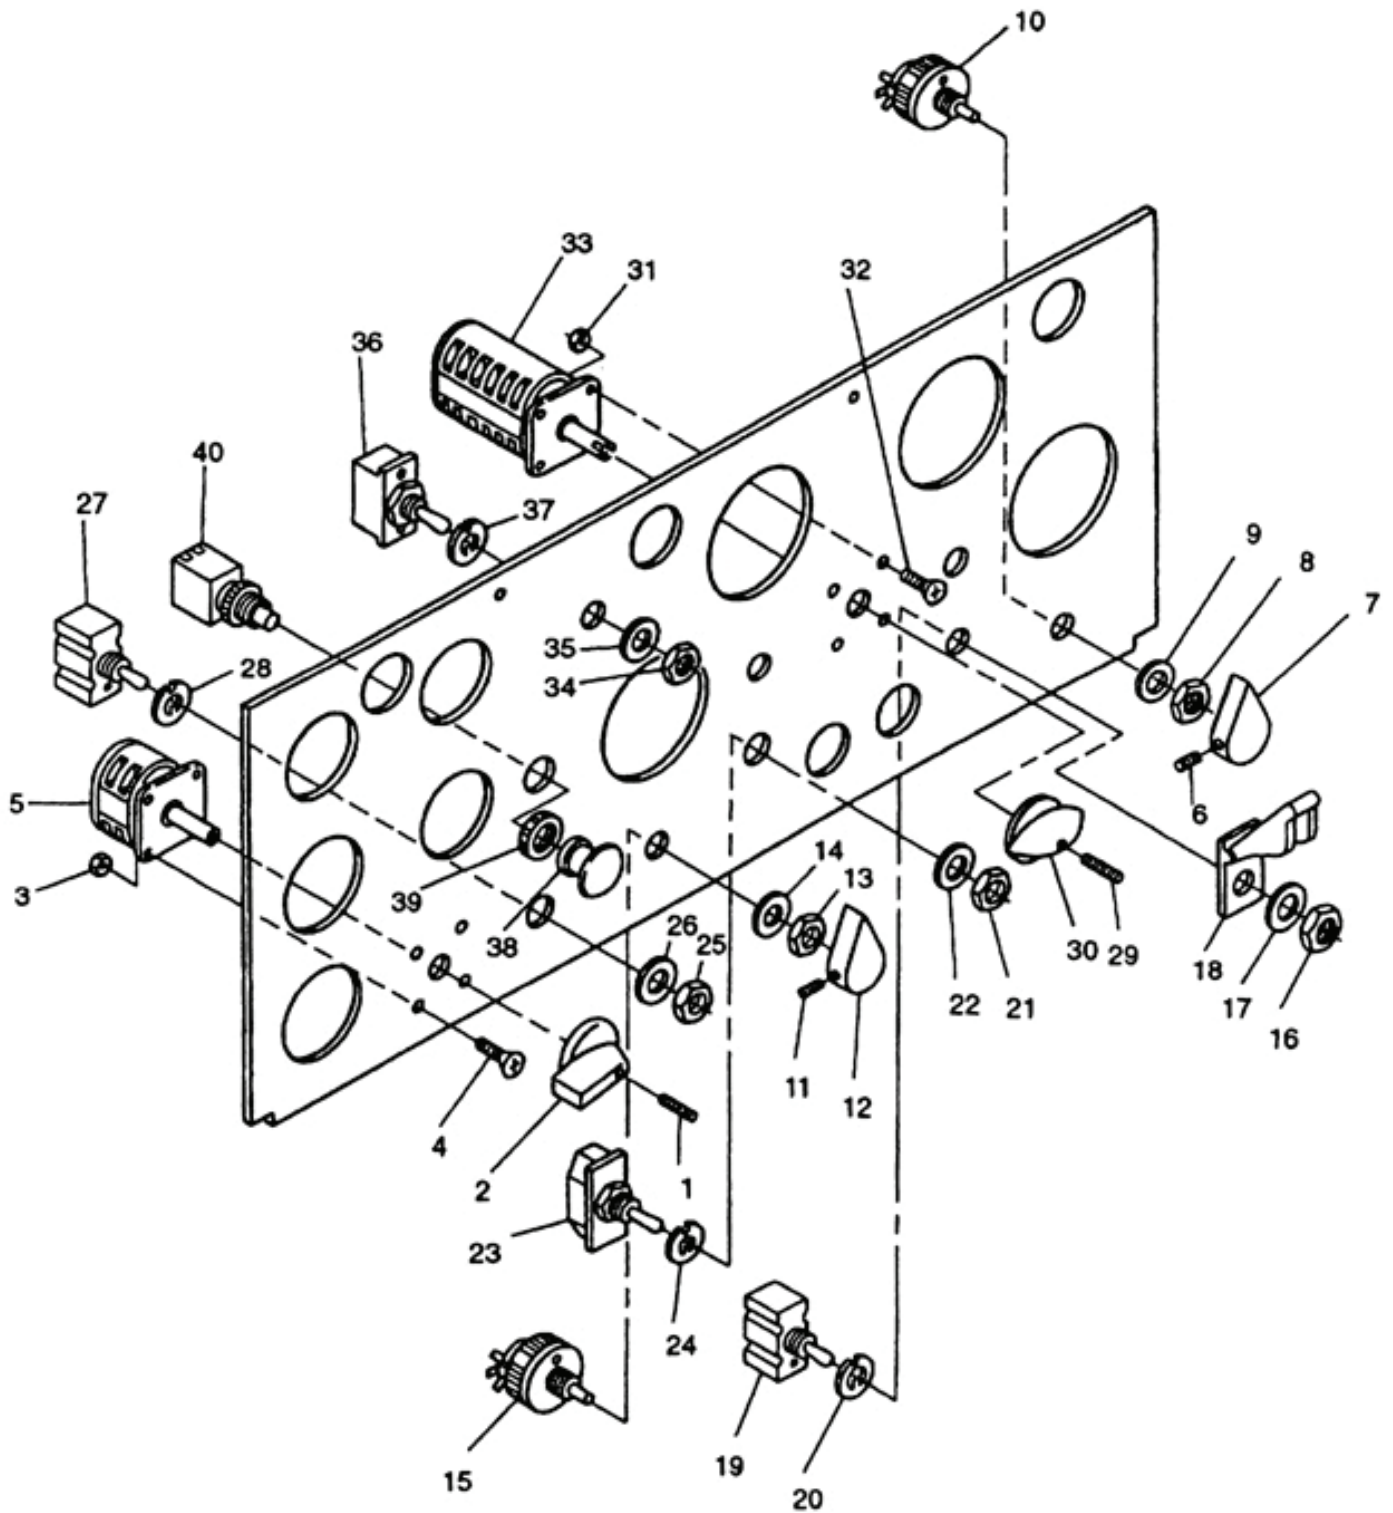

Figure 2-13. Control Panel Switches.
- d. Loosen setscrew (1, Figure 2-13) and remove knob (2) from MASTER SWITCH (5).
- e. Remove nuts (3) and screws (4).
- f. Remove MASTER SWITCH (5) from control panel.
- d. Tag and disconnect MASTER SWITCH (5, Figure 2-13) electrical leads.
- h. Connect electrical leads to MASTER SWITCH (5). Remove tags.
- a. Connect electrical leads to MASTER SWITCH (5, Figure 2-13). Remove tags.
- b. Insert MASTER SWITCH (5) into control panel.
- c. Install screws (4) and nuts (5).
- d. Install knob (2) and tighten setscrew (1).
- d. Tag and disconnect VOLTAGE adjust potentiometer (10, Figure 2-13) rheostat electrical leads using soldering gun. Remove shrinkable tubing.
- e. Remove setscrews (6) and knob (7).
- f. Remove nut (8) and washer (9).
- g. Remove VOLTAGE adjust potentiometer (10) from control panel.
- b. Set multimeter for ohms and connect across two outer terminals of potentiometer (10, Figure 2-13). Indication shall be as follows:
- a. Insert VOLTAGE adjust potentiometer (10, Figure 2-13) into control panel.
- b. Install washer (9) and nut (8).
- c. Install knob (7) and setscrews (6).
- d. Tag and disconnect FREQUENCY adjust potentiometer (15, Figure 2-13) electrical leads using soldering gun. Remove shrinkable tubing.
- e. Remove setscrews (11) and knob (12).
- f. Remove nut (13) and washer (14).
- g. Remove FREQUENCY adjust potentiometer (15) from control panel.